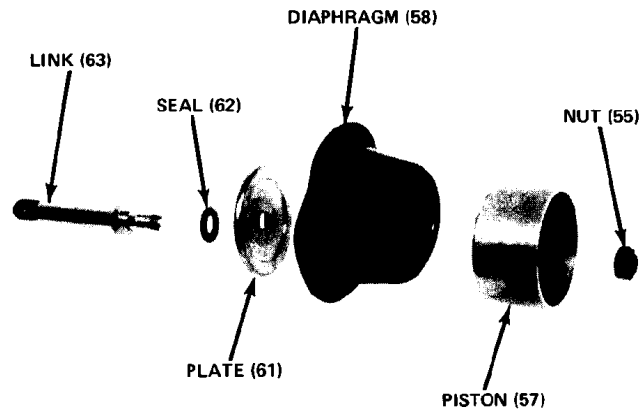

Figure 4-6. Diaphragm and Linkage Assembly
15. Assemble link (63), seal (62), plate (61), rolling diaphragm (58), piston (57), and nut (55). See Figure 4-6.